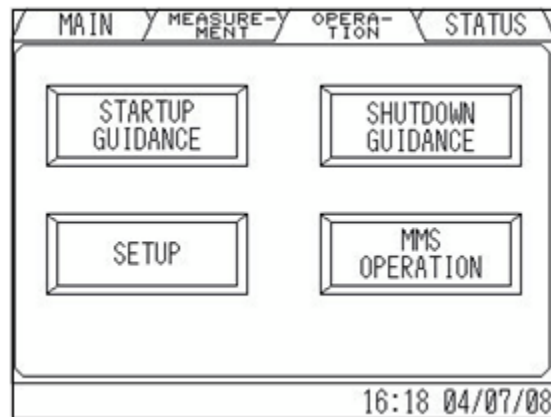
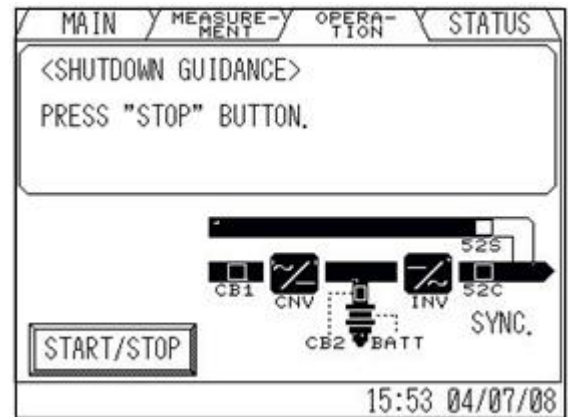

Figure 4-3 Startup/Shutdown Screen
Figure 4-5 Shutdown Guidance
1) Startup/Shutdown Guidance (Figure 4-3 to Figure 4-5)